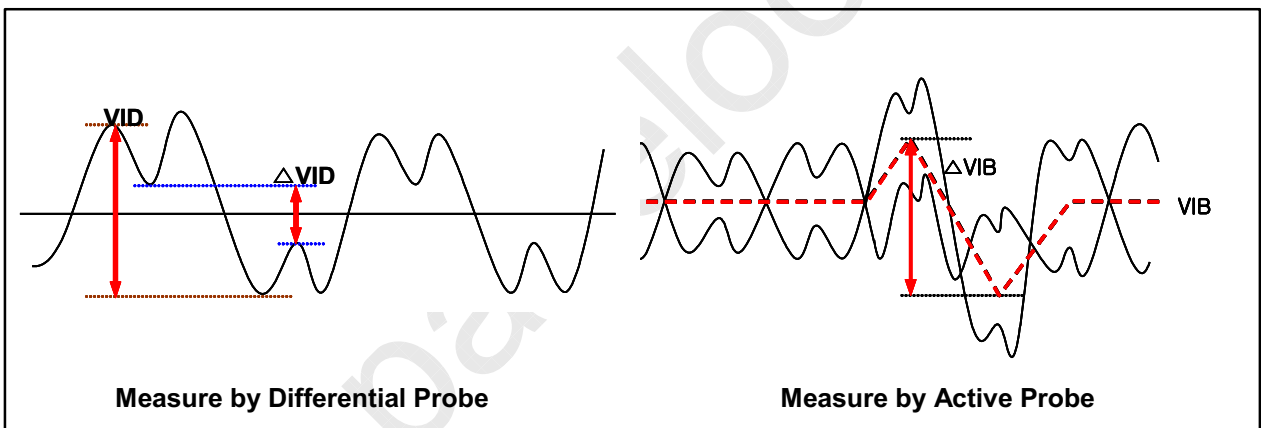

FIG. 2 Description of VID, VIB, ΔVID, ΔVIB
- See Fig 2 for the more detailed definition.